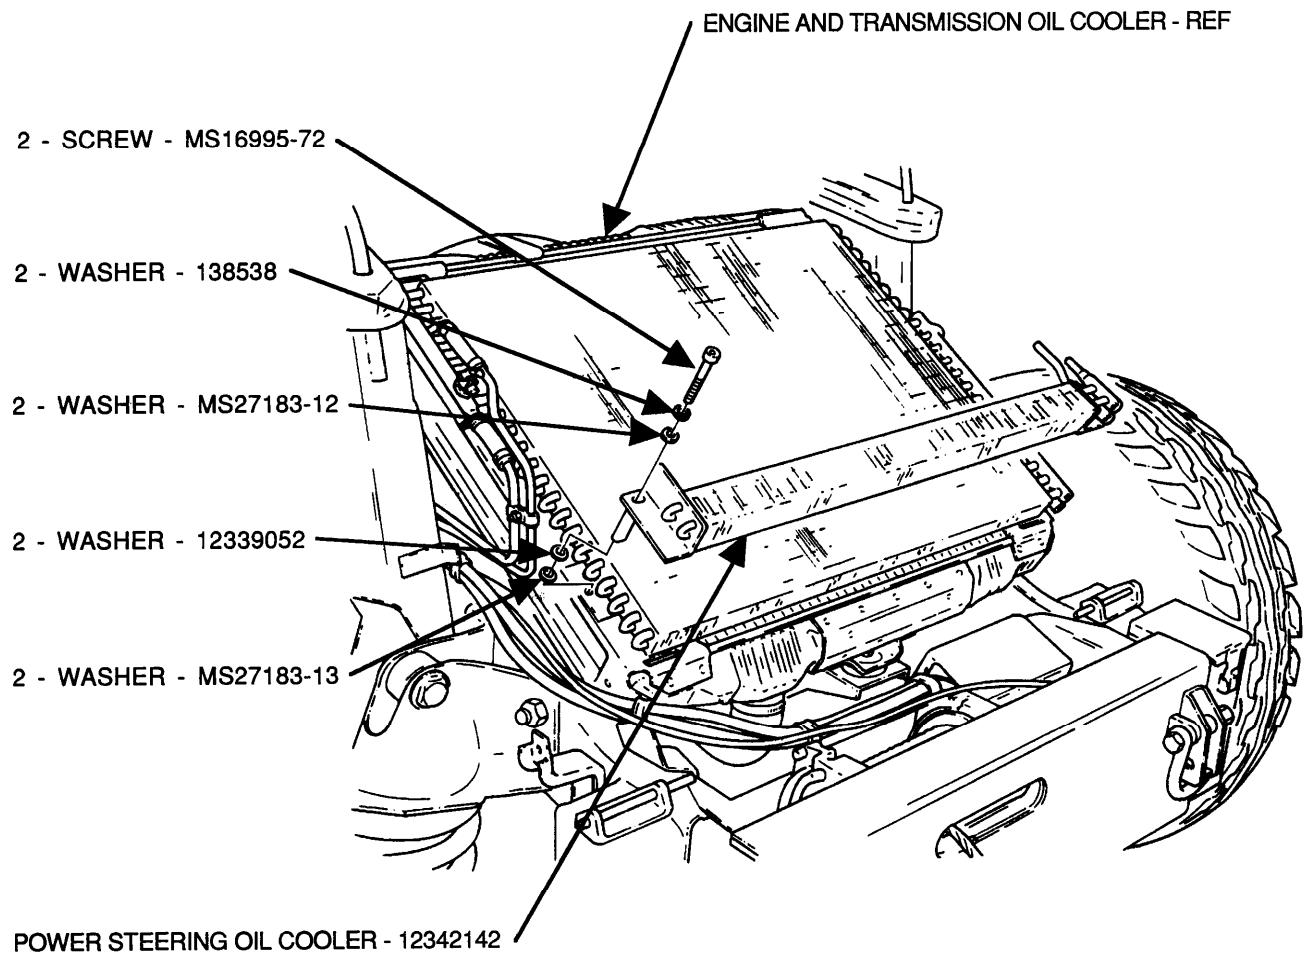

FIGURE 3
- (1) Position two MS16995-72 screws, 138538 washers, and MS27183-12 washers to 12342142 power steering oil cooler as shown in figure 3.
- (2) Position two 12339052 washers and MS27183-13 washers to oil cooler as shown in figure 3.
- (3) Install power steering oil cooler to oil cooler and secure with two screws as shown in figure 3. Tighten screws to 12-14 lb-ft (14-18 N m).